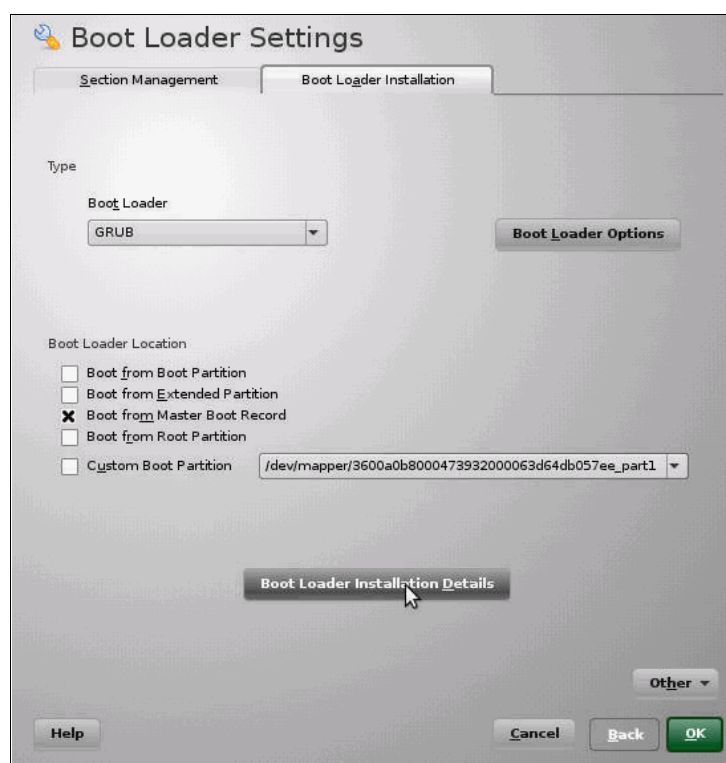

Figure 2-105 Selecting of the Boot Loader Installation details
12. We now click the **Boot Loader Installation Details**, as shown in Figure 2-105.